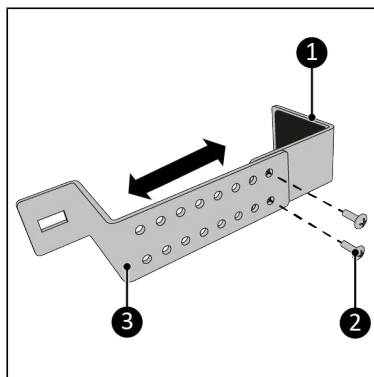

Figure 77.
3. Screw the top part (Figure 77, pos. 1) and the bottom part (Figure 77, pos. 2) together using the two M5 x 7 mm screws (Figure 77, pos. 3). Make sure the width is slightly larger than the width of the frame of the window.